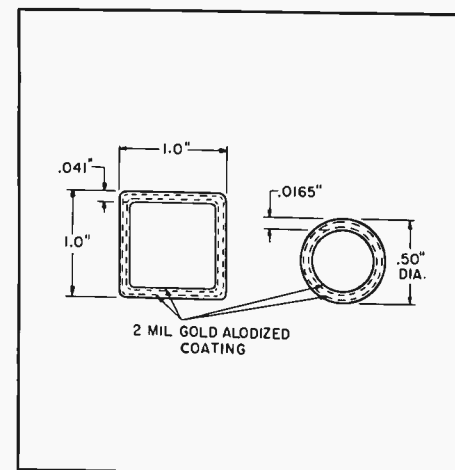

Figure 6—Full Alodine Protection of All Aluminum Internal and External Surfaces
of structural grade 3005-H-29 aluminum with 1-inch by 1-inch by 0.041-inch walls (Figure 6). Elements are half-inch seamless aluminum with 0.0165-inch walls. High-strength, injection molded plastic is used for all non-metal parts. Rivets, U-bolts, and all other hardware are of heavy-duty, industrial grade.
9. The antenna should be protectively coated to resist the effects of salt and other corrosive atmosphere. This coating should be applied to inner and outer surfaces. All aluminum parts of Sylvania antennas are processed through a seven-bath, weather-resisting alodine solution prior to assembly. This assures that all surfaces are completely covered. The high-conductivity coating penetrates the metal surface to a nominal depth of two-mils (Figure 6).